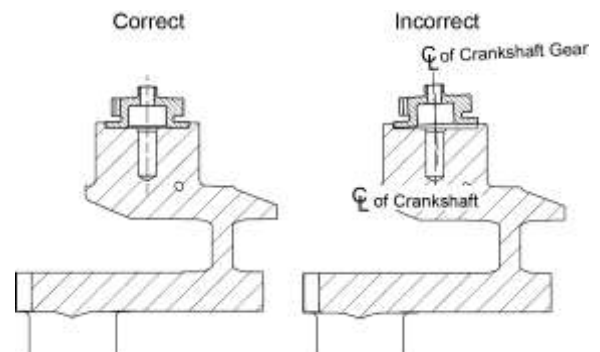

Figure 51
- (4) Make sure the crankshaft trigger gear assembly seats firmly and is perpendicular (not at a slanted angle) to the crankshaft as shown in Figure 51. If the crankshaft trigger gear assembly does not seat correctly, remove it, check for the cause, or replace the crankshaft trigger gear assembly if necessary.
- (5) Remove the crankshaft trigger gear assembly and put it in a safe place until it is installed, after the crankcase is assembled.